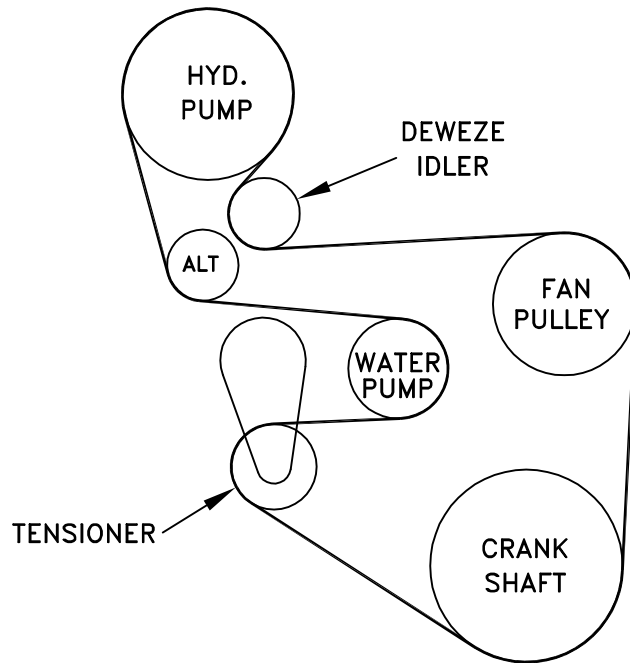

FIG. 7
3. Remove OEM tensioner by removing center bolt (14). Remove OEM idler pulley and washer from tensioner.
4. A notch must be ground in the back of the tensioner to clear the alternator. Grind back .350" from the edge and .450" deep (to edge of spring where it comes through the tensioner). See Fig. 7.
5. Install the DewEze idler pulley (17) on tensioner using OEM shoulder bolt (13). Do not use OEM washer that was on rear of OEM idler.
6. Replace tensioner using OEM bolt (14).